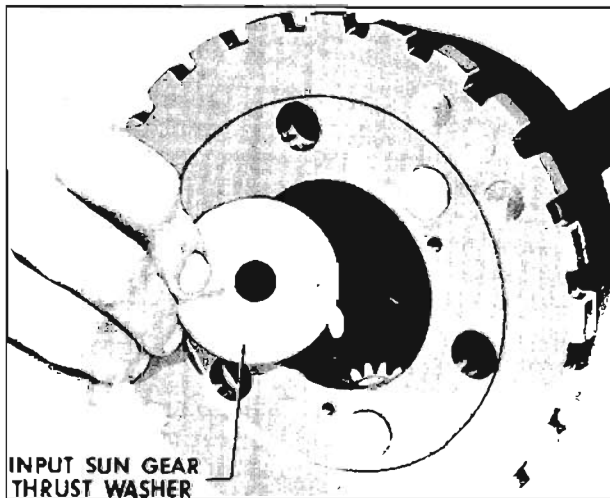

Fig. 6-389 Removing Front Thrust Washer
- Remove input sun gear thrust washer. (Fig. 6-389)